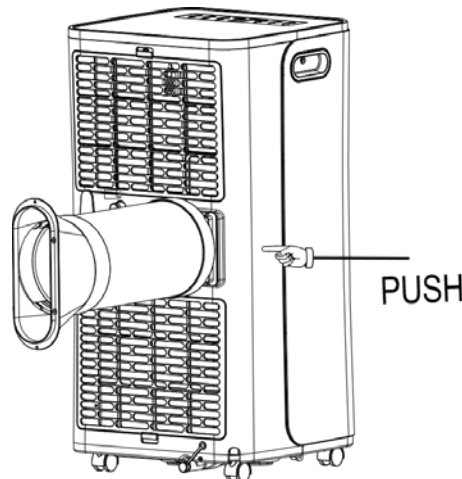

Figure 1
#### 1.1 Install the heat pipe assembly ( as shown in Fig.1 )
- 2 ) insert the heat pipe assembly (the end of the exhaust joint) into the back panel vent slot (push to the left) and complete the assembly (as shown in figure 1).